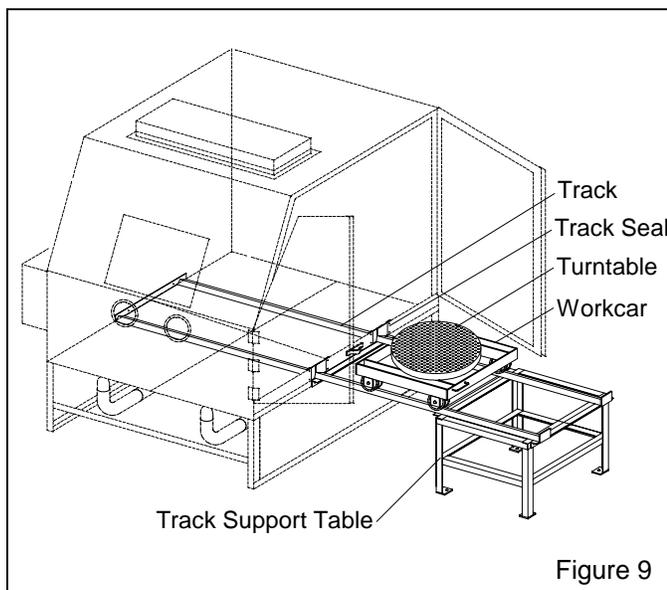
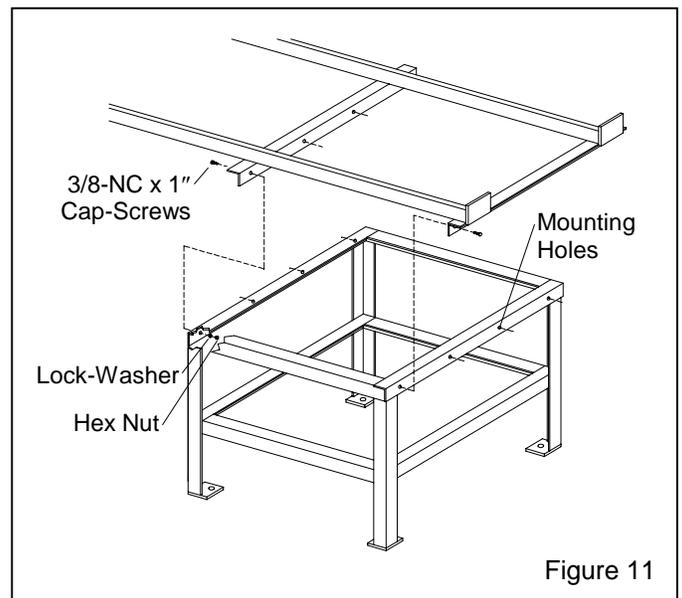

Figure 9
Figure 11
**3.4.1.1** These instructions cover field installation for 500 lb. capacity workcar and track assemblies. If the track was ordered with the cabinet, it is partially assembled at the factory. Disregard the instructions that do not apply. See Figure 9 for arrangement of the major components.
**3.4.3.2** Being careful not to damage the track seals, lay the track assembly in the cabinet as shown in Figure 9. Align the mounting holes in the track support table with the track cross supports as shown in Figure 11. Secure with 3/8-NC x 1" cap-screws, lock-washers, and nuts.